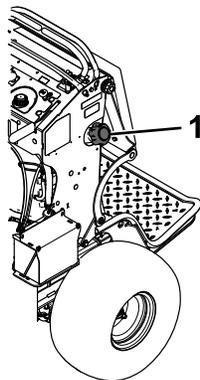

Figure 58
3. Clean around the fuel cap to prevent debris from getting into the fuel tank (Figure 58).